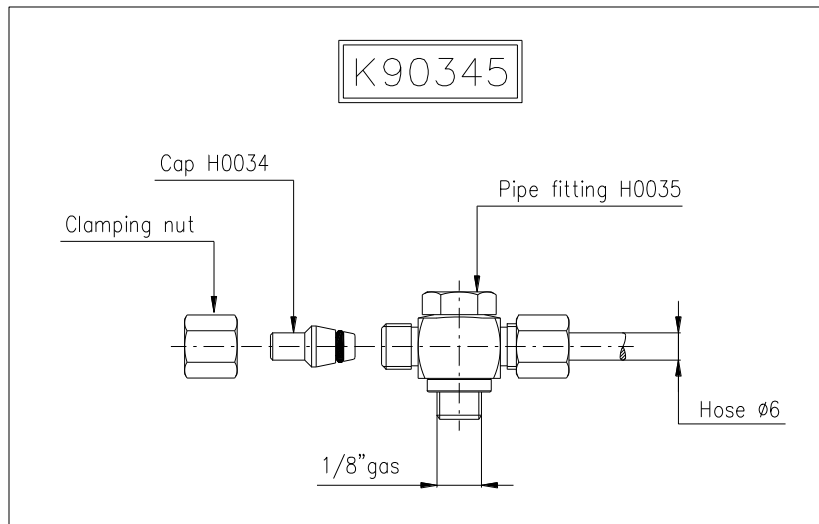

Figure 3
4. The brake can be supplied on request complete with pipe fittings (K90345) where there is already an air bleed (Figure 3). To bleed the air from the circuit after connecting the brake to the power line using a $\varnothing 6$ hose, loosen the clamping nut of the fitting (H0035) and pull out the cap (H0034). After bleeding the circuit tighten the fitting (H0035).